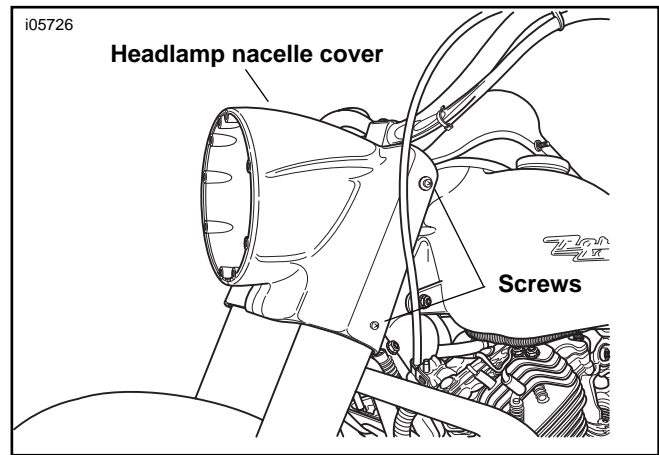

Figure 1. Remove Headlamp Nacelle Screws
4. See Figure 1. Remove the four screws (two each side) from the headlamp nacelle covers (upper and lower fork brackets).